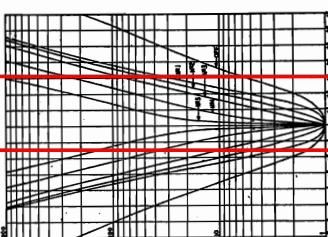

FIG. 3.—Overall selectivity curves for 485 ka. 1.  $P$ . amplifier and crystal filter. 2. Labeling of the curves as the number 3 on the manual.
**CRYSTAL FILTER:** The crystal filter included in the "HQ-120-X" is an outstanding HAMMARLUND development. Unlike most other crystal filters, this one has five degrees of selectivity. These five degrees of selectivity are controllable directly from the panel by operation of a rotary switch. And, these degrees of selectivity remain permanent regardless of the reflector control setting. These five steps include 1, 2, and 3 permanent rejection, varying from broad to fairly sharp, in conventional steps. The fourth and fifth are for CW or code reception. Four, being moderately selective and five being the maximum selectivity of the crystal filter. The crystal can be cut out for general use, by the sixth control on the switch, the program key, as indicated in Fig. 3. Thus, the selectivity for CW or code reception is controllable, as indicated in Fig. 3. These five degrees of selectivity are marked on the controls in the crystal filter. The rejecter or phasing control can be set to eliminate a heterodyne of some particular frequency within its range, and will not require re-adjustment when the selectivity control of the filter is changed. Also, the output, or overall gain,
**I. F. AMPLIFIER:** The intermediate frequency amplifier consists of three stages employing iron core permeability-tuned transformers. The intermediate frequency is 455 kc, which has now become the R.M.A. standard. Overall selectivity curves for the I. F. amplifier with crystal filter are shown in Fig. 3. The A.V.C. arrangement in this amplifier operates remarkably smooth operation. There is a switch for cutting out the A.V.C. and providing manual control of volume or sensitivity.